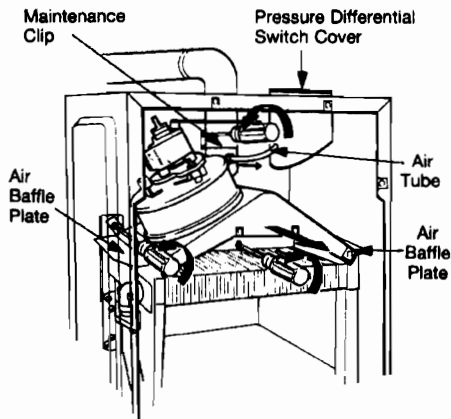

Fig. 33
- 8.9.2 Loosen maintenance clip securing screws (see fig. 33) and slide upwards to clear joint.
- 8.9.4 Remove 3 flue hood retaining screws (see fig. 33)
Refer to Fig. 33
- 8.10.2 Remove 3 screws holding pressure differential switch cover (fig. 33) and remove cover